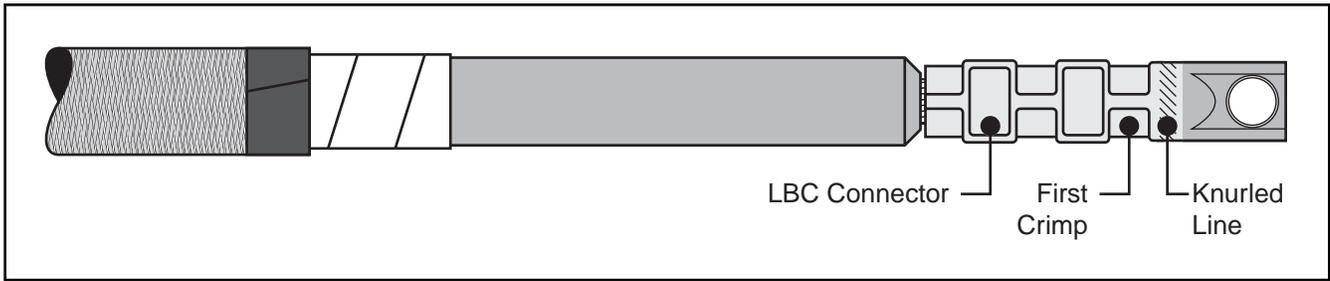

Figure 4
- 2.1 Place LBC Connector on the conductor. Make sure that the threaded hole in the connector faces the desired direction. Crimp the connector in place using a tool and die combination listed in Table 2. Start crimping just below the knurled line and rotate each successive crimp to prevent bowing. Do not overlap the crimps. Place as many crimps on the connector as will fit. (Table 2 and Figure 4.)